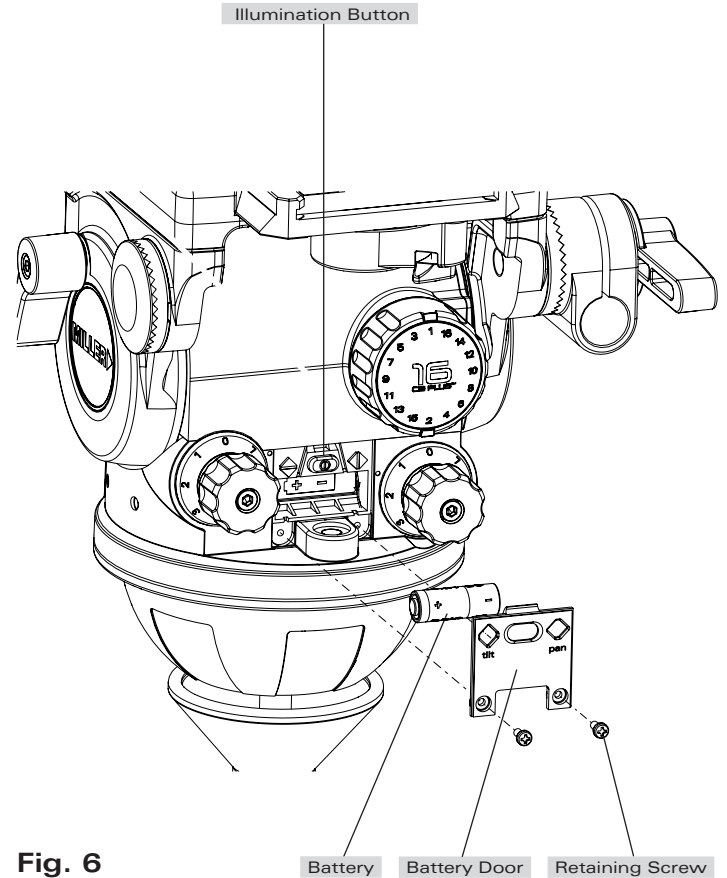

Fig. 6
- Insert the new battery as shown in figure 6.